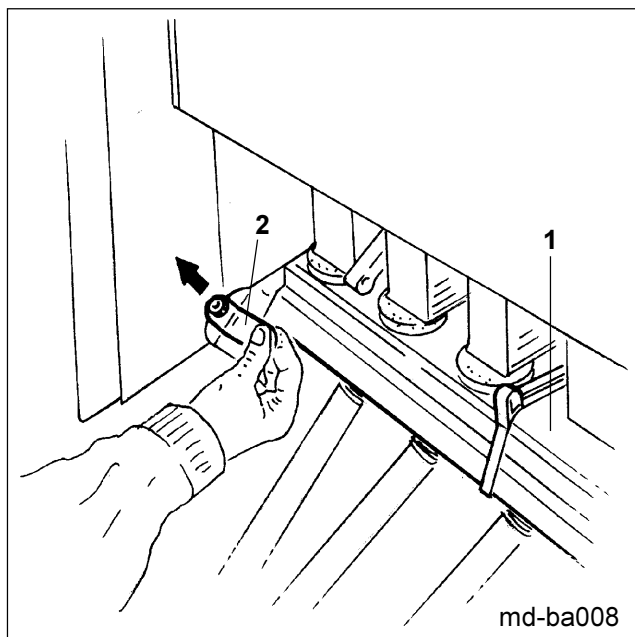
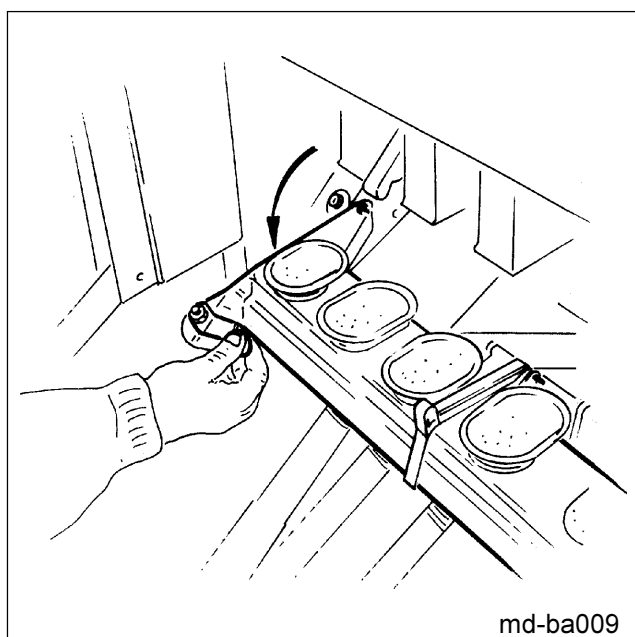

Fig. 11.2
Fig. 11.3
Lower the seed funnel chute(s) (Fig. 11.2/1):
For a short moment pull out the two, spring loaded locking levers (Fig. 11.2/2) with which every seed funnel chute is equipped and lower the seed funnel chute (Fig. 11.3).
- Slide the funnel chute(s) (Fig. 11.2/1) upwards until it (they) catch(es) audibly.